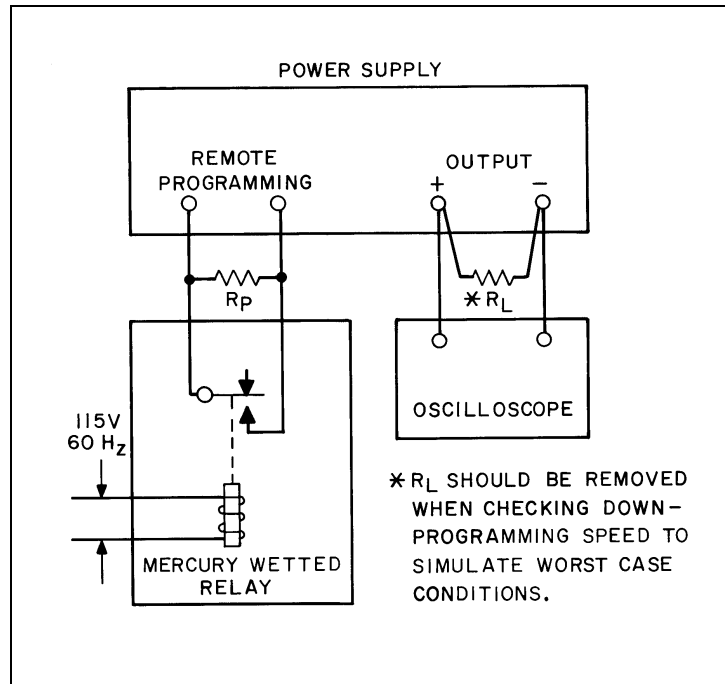

Figure 77. CV Programming Speed Test Setup
The measurement is made by monitoring the output voltage while rapidly changing a remote programming resistance or voltage. Up-programming requires that the remote programming source (RP in Figure 77) be varied from zero ohms to a value that will produce maximum rated output voltage, while down-programming involves changing the resistance from the value that produces maximum rated output voltage to zero ohms. As shown on Figure 77, the load resistance RL is included when checking up-programming and is removed for
4. For supplies with programming speeds of less than 8 milliseconds, a mercury-wetted relay (of the type used for checking transient recovery time) can be employed to switch the programming resistance between zero and maximum at a 60Hz rate. The relay is connected as shown on Figure 77. For supplies with slower programming speeds (above 8 milliseconds) a hand-operated switch must be substituted in place of the mercury-wetted relay across the programming resistance. A dc coupled oscilloscope is connected across the output terminals to allow observation of the one-shot displays.